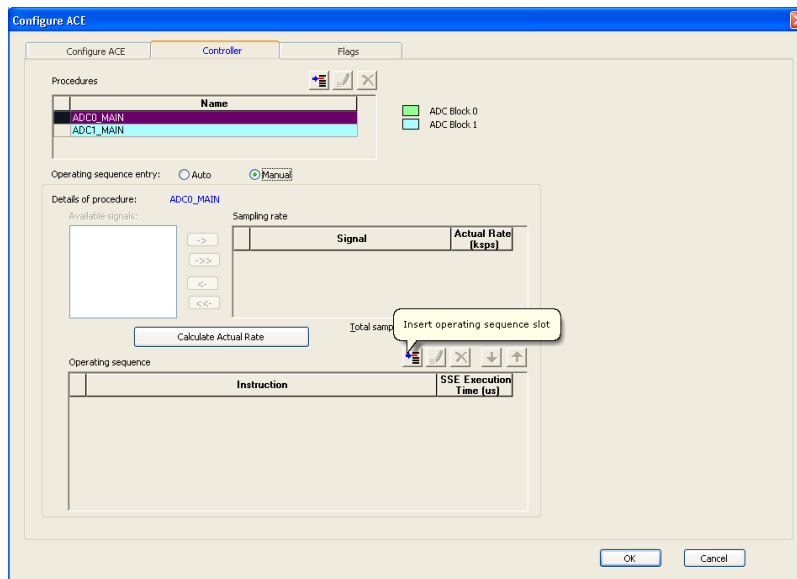

Figure 11 - MSS ACE Configuration to Enable Sampling Sequence
- Select **Manual** as the **Operating sequence entry** in the **Controller** tab and click **Insert operating sequence slot** (see Figure 11 .).